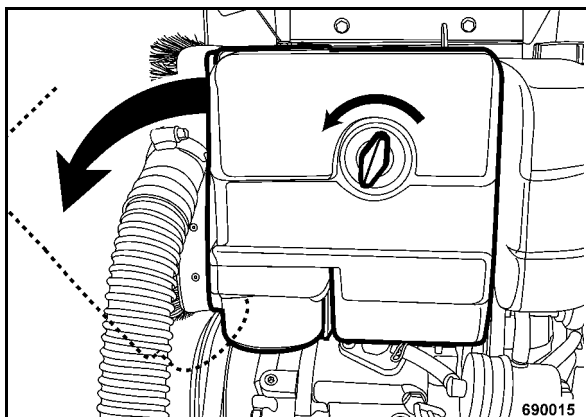

Fig. 43
- Unscrew the wing nut and remove the housing cover (Fig. 43).